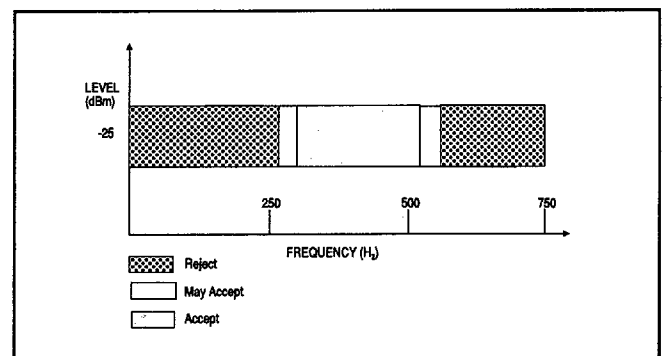

Figure 7 Call Progress Response
A call progress (CP) mode can be selected, allowing the detection of various tones that identify the progress of a telephone call on the network. The call progress tone input and DTMF input are common; however, call progress tones can only be detected when the CP mode has been selected. DTMF signals cannot be detected if the CP mode has been selected (see Table 3). Figure 7 indicates the useful detect bandwidth of the call progress filter. Frequencies presented to the input (IN+ and IN-) that are within the "accept" bandwidth limits of the filter are hard-limited by a high-gain comparator with the IRQ/CP pin serving as the output. The square wave output obtained from the schmitt trigger can be analyzed by a microprocessor or counter arrangement to determine the nature of the call progress tone being detected. Frequencies in the "reject" area will not be detected, and consequently there will be no activity on IRQ/CP as a result of these frequencies.